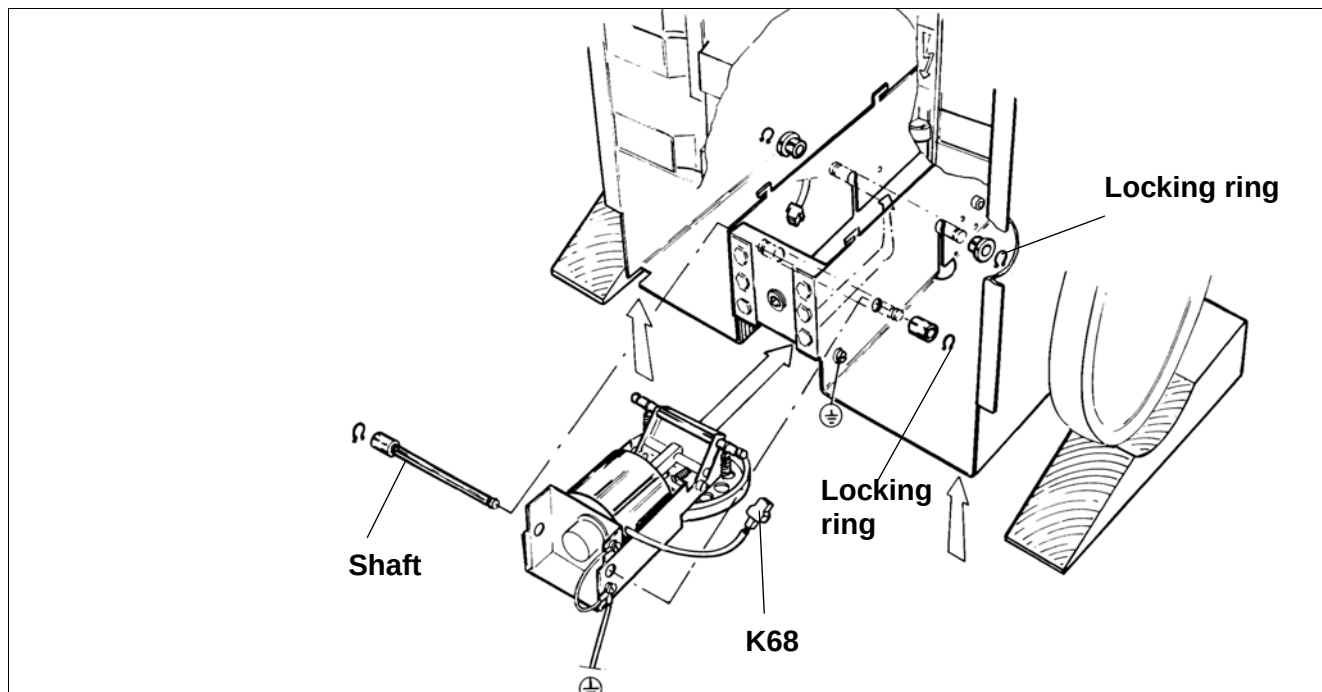

Fig. 13
- Disconnect all cables, ground connection and K68 according to (Fig. 13).